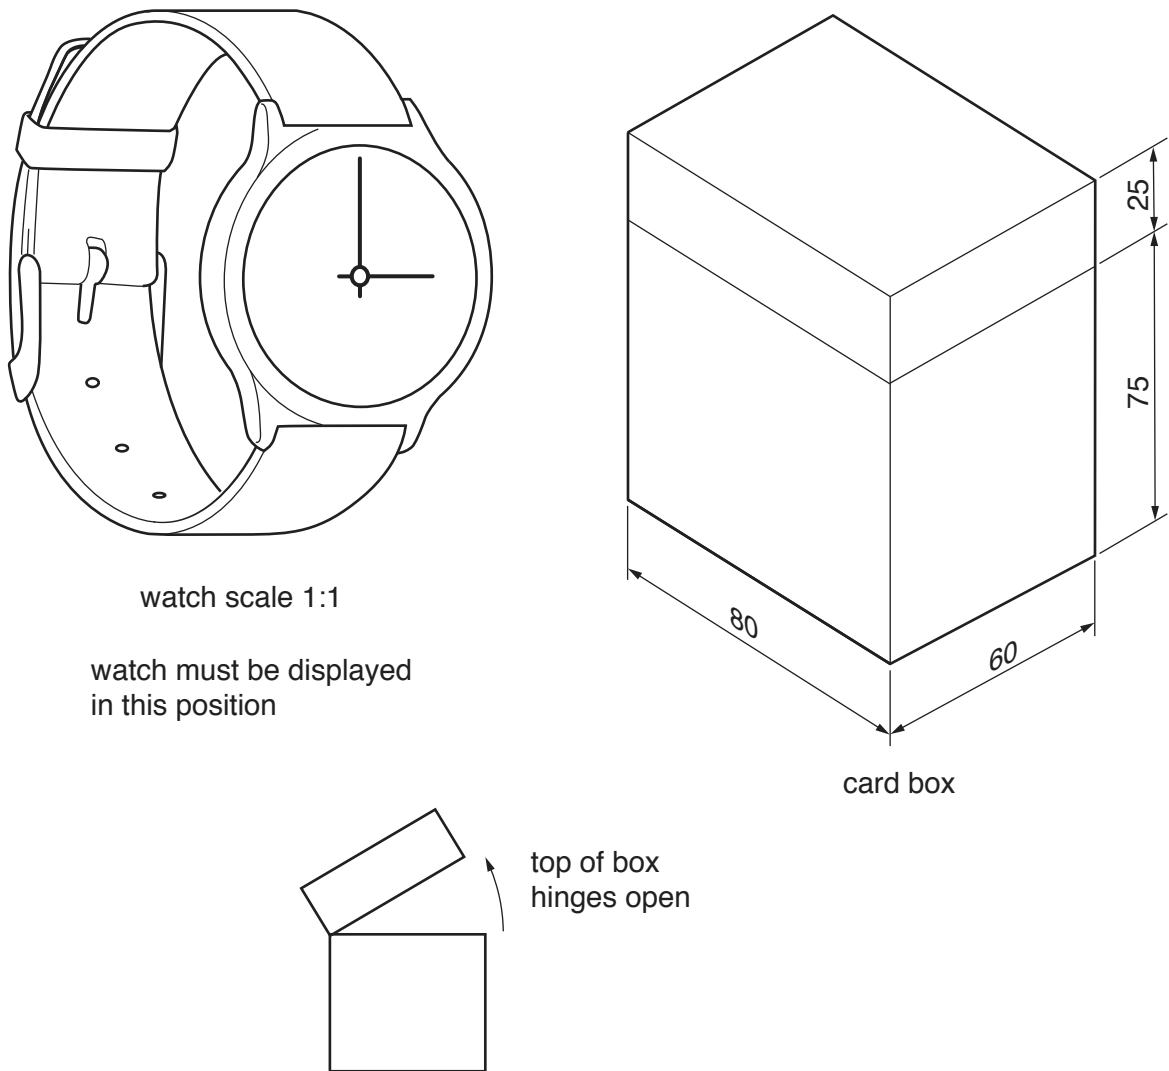

Fig. 8
- 8 Fig. 8 shows a watch and an incomplete design for the packaging to hold the watch.